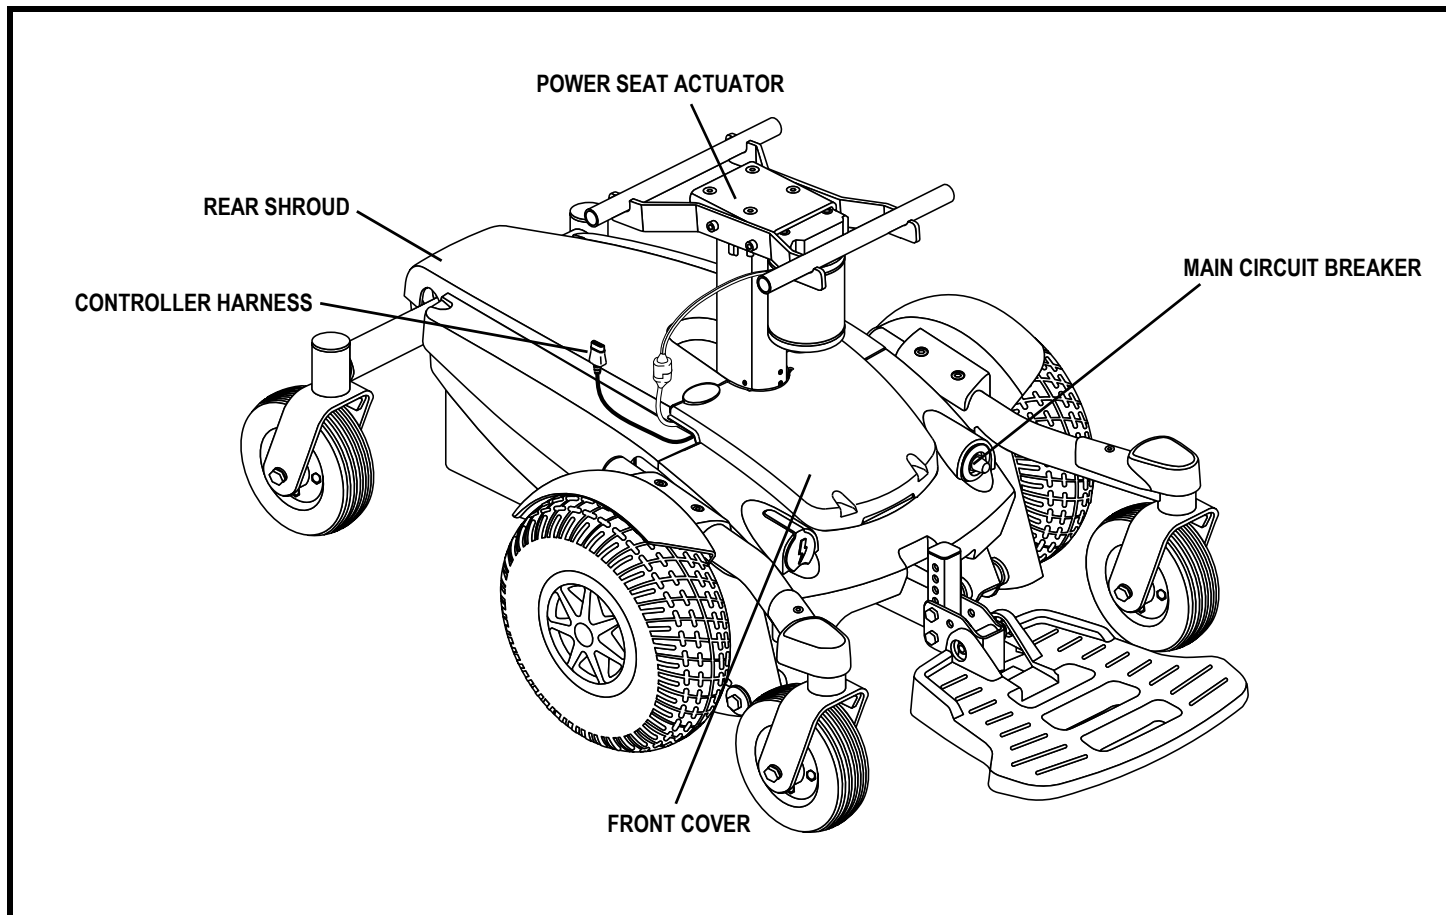

Figure 8. The Jazzy Select 6 With Power Seat Power Base
6. Plug the controller harness into the connector on the power base. See figure 8.